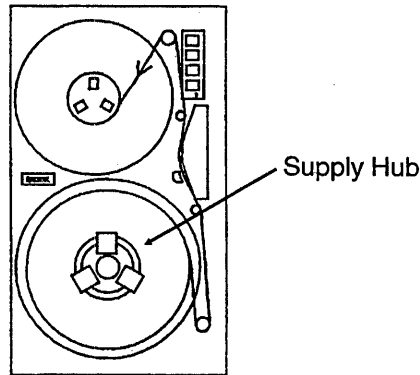

Figure 2-1
4. Thread the tape as indicated by the raised arrows on the surface of the casting. Refer to Figure 2-1.